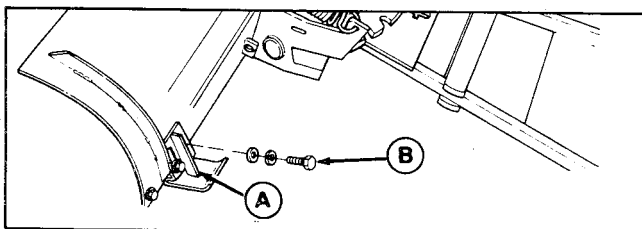

Figure 7. Skid Shoes
Alternate holes are provided to permit adjustment of the shoe assemblies for raising and lowering the blade to various working heights (see figure 7). When cleaning snow from gravel or earth drives or walks the shoe assemblies should be lowered fully to prevent blade contact with gravel or ground. When cleaning smooth hard surfaces, like concrete, the shoe assemblies are normally placed fully up to allow the blade to scrape the surface.
To adjust the skid, raise the blade off the ground and block with a piece of wood. Loosen the bolts (B, figure 7) and move the skid shoes (A) up or down to desired height. Tighten the bolts securely.